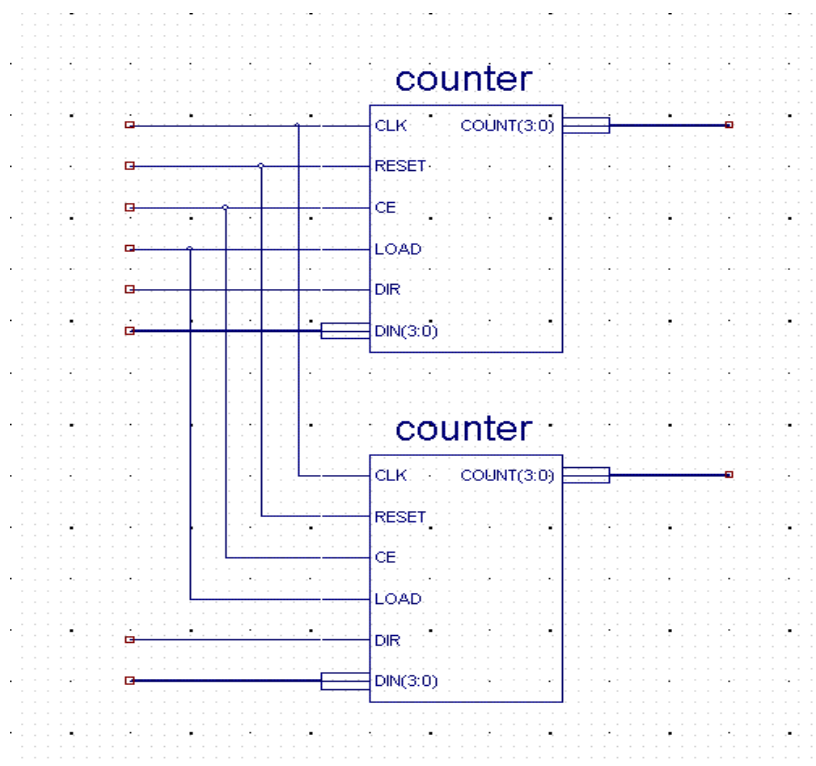

Figure 17: Interconnected Modules
**Note:** Add hanging wires according to the diagram in Figure 17.
**Note:** Connect the wires of the two counters according to the diagram in Figure 17.